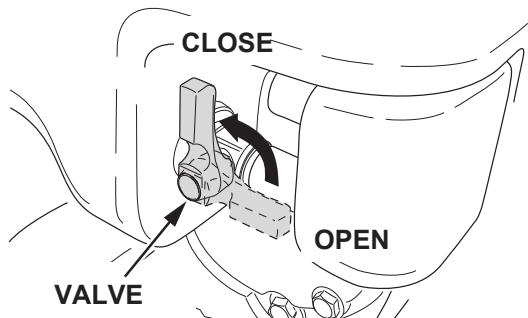

Figure 14. Water Tank Valve (Close)
2. When stopping sprinkling work, close the valve of water tank (Figure 14).